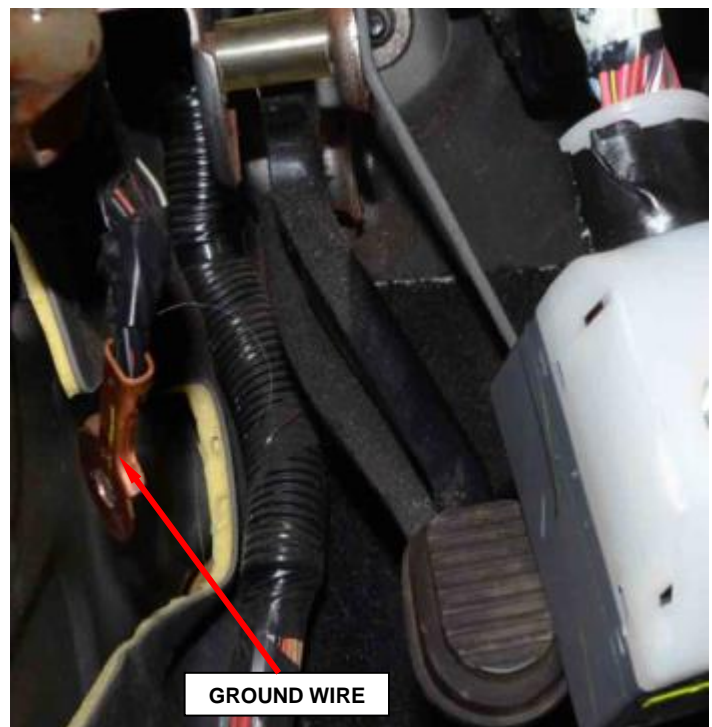

Figure 70 – Bolt and Ground Location
20. Remove the bolt and the ground from the left A-pillar (Figure 70).